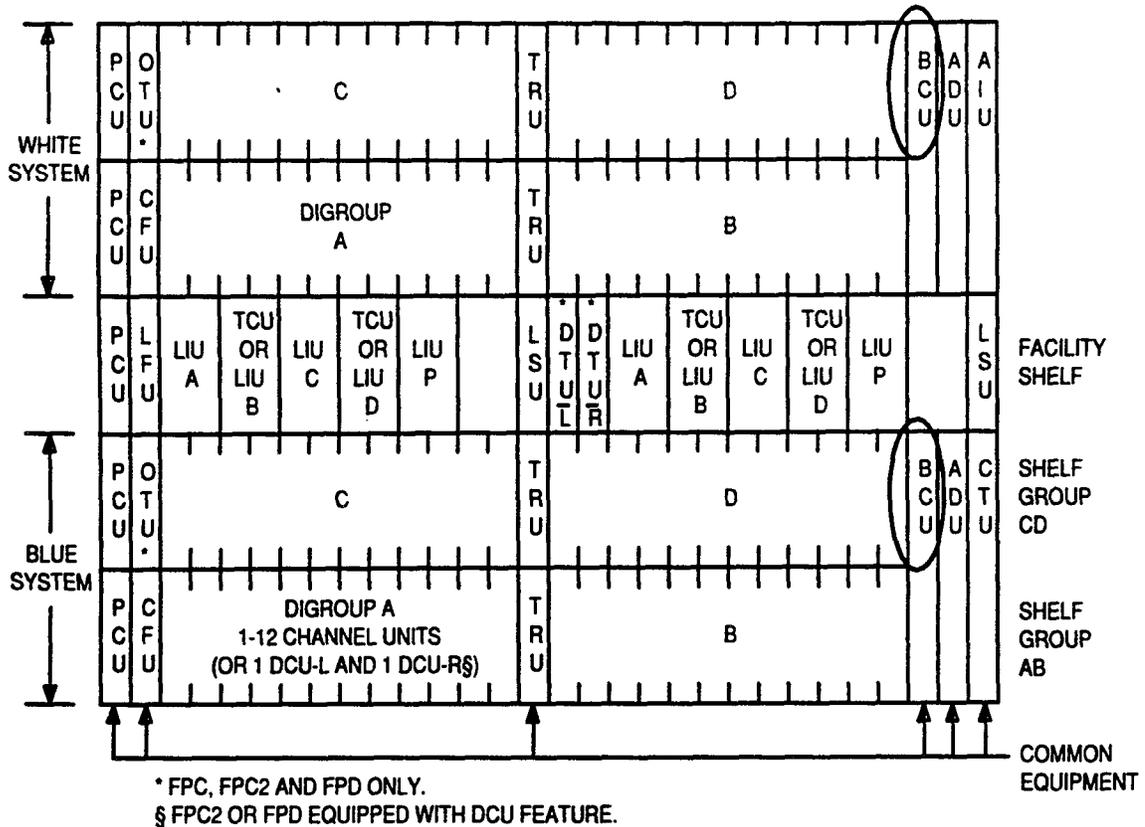

Figure 2—Location of BCUs
23. At COT, unseat BCU (FIG. 2) (to test MN and NE closures).